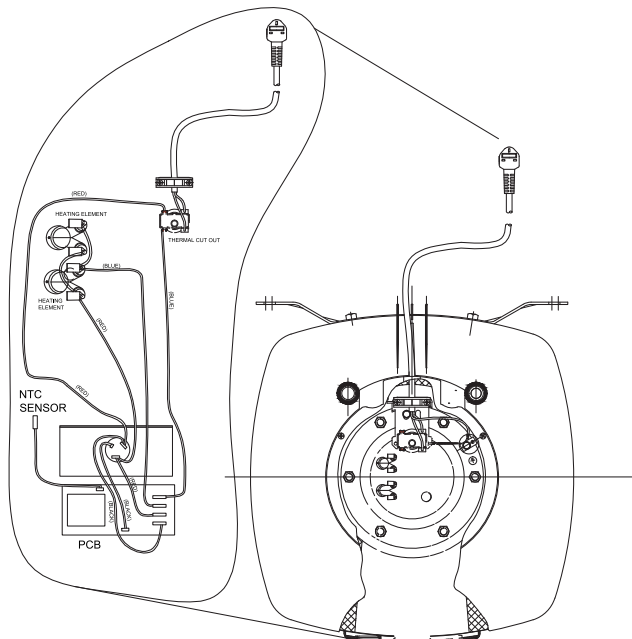

Figure 4 - Assembly schematic.
5.1. The sheathed heating elements - Two parallel 1.2 or 1.5kW 230v 50Hz sheathed heating elements are pre fitted to the cylinder at the factory. They are wired in accordance with the instructions given in Figure 4.